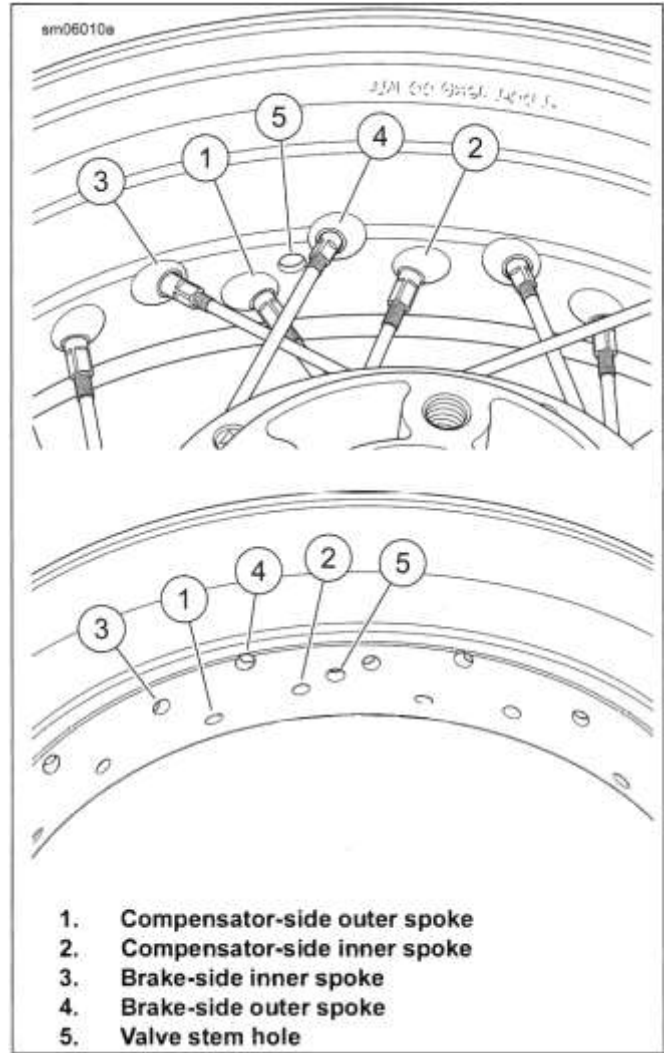

Figure 3-19. Begin Lacing
See Figure 3-19. It is recommended that the first spoke be installed near the valve stem hole (5). Place spoke nipples through several rim holes to determine the hole direction. Only one spoke will fit into the spoke nipple correctly. When connecting the spoke to the spoke nipple, finger-tighten two to three threads.
See Figure 3-19. Begin with the outer spokes (short-head) of the lower (compensator) flange. Using the spoke alignment method discussed previously, locate a spoke hole (1) just left of the valve stem hole (5) that points toward an outer spoke.
See Figure 3-19. All upper flange inner spokes (long-head) point counterclockwise and outer spokes (long-head) clockwise.